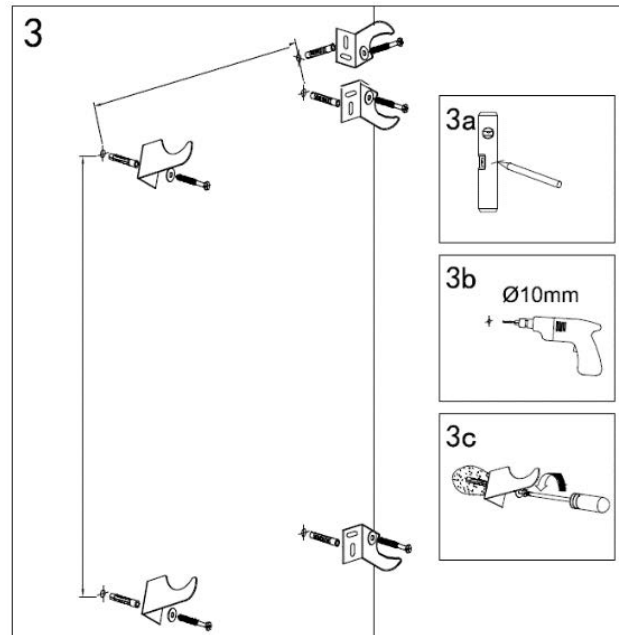
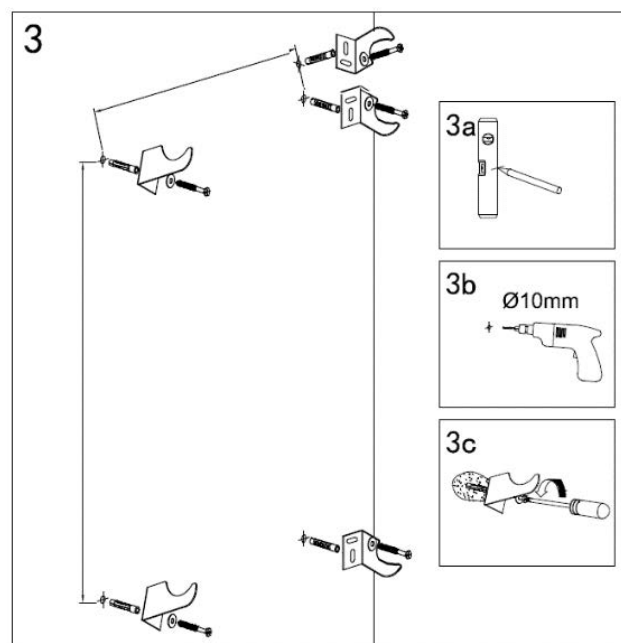

Figure 4 | Fixing the wall Brackets
Figure 5 | Fixing the wall Brackets
- a. Use the template provided in the box to mark the Bracket positions on the wall (see Figure 4).
- b. Using a 10mm drill bit, drill four holes in the marked locations and push the Wall Plugs (D) inside.
- c. Position the Brackets (A, B) over the holes and fix in place using the Washers (E) and Wall Screws (F). The Brackets (A, B) should slot between the bars with their mounting plates facing together: with the Left Brackets
- (A) on the left and the Right Brackets (B) on the right as you face the radiator (see **Figure 4** above).
4. If you require your Left (A) and Right (B) Brackets to be spaced closer together or farther apart, for example when affixing to studs in a stud wall, you can choose custom Bracket positions.
- b. The Brackets (A, B) should slot between the bars with their mounting plates facing together: with the Left Brackets (A) on the left and the Right Brackets (B) on the right as you face the radiator.
- c. Use a tape measure, spirit level and the positions decided in step **a** above to mark the Bracket positions on the wall (see **Figure 5**).